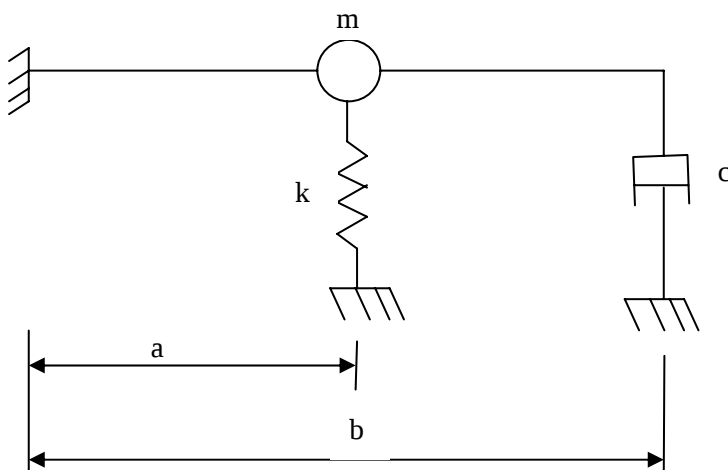

Figure 2
- (b) Determine the equation of motion for the system shown in figure 2. Also determine the critical damping co-efficient for the dash-pot. **07**